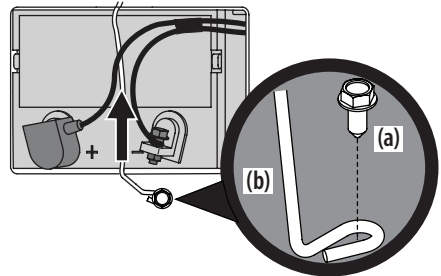

Figure 15
- Remove the hex washer screw (a) securing the battery hold-down rod (b) to the frame. Then flip the battery hold-down rod (b) up to free the battery. See Figure 15.